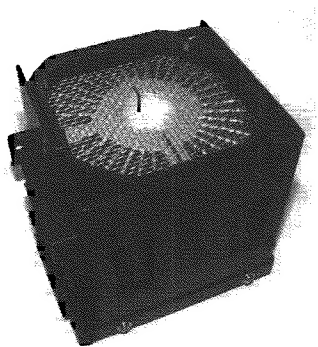

Fig. 1
1. Place the lamp assembly on a stable work surface (Fig. 1).